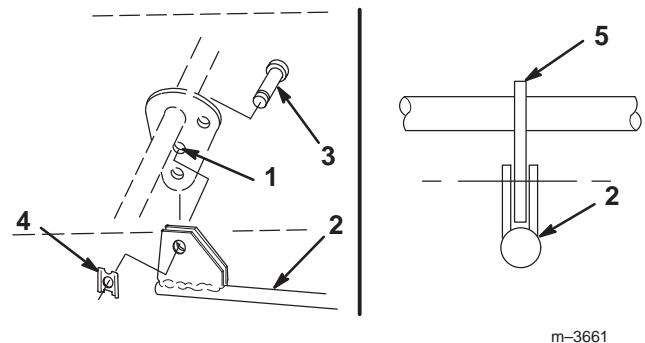

Figure 30
- Disconnect the snowthrower lift rod from the attachment lift plate by removing the clevis clip and clevis pin (Fig. 30).